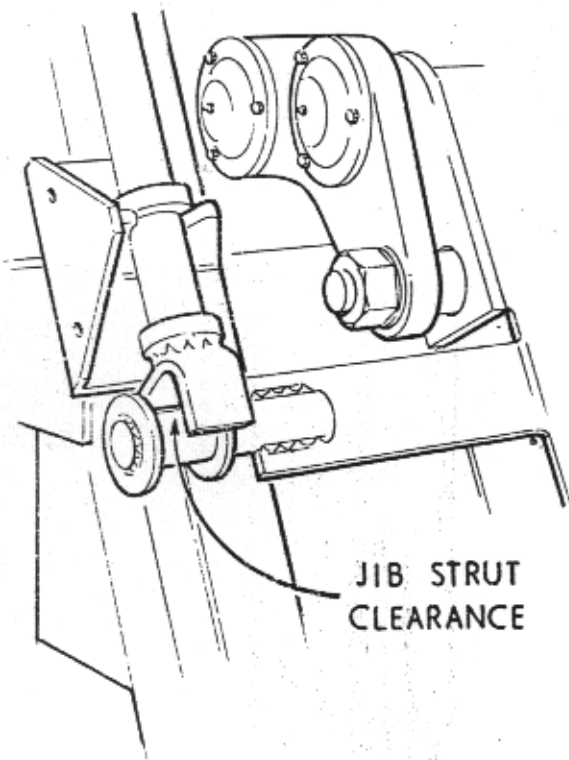

FIG. 9 JIB STRUT CLEARANCE
Jib Strut Clearance Fig. 9
1. Check that when hopper is in the down position the jib struts (Ref. 2 Group G 1) are clear of the horizontal hopper bars either side and do not foul the welded washers, see Fig. 9